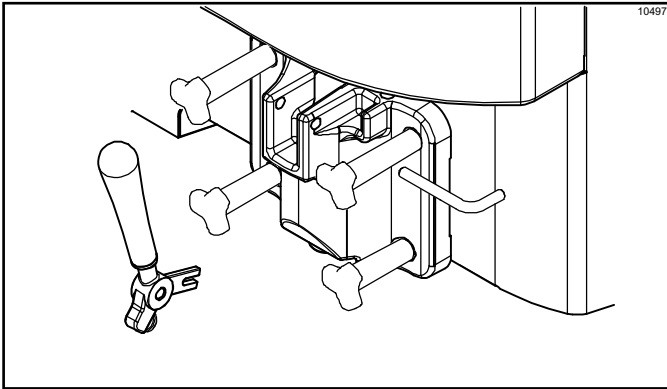

Figure 6-13
- Slide the fork of the draw handle into the slot of the draw valve. Secure with the pivot pin. (See Figure 6-13.)